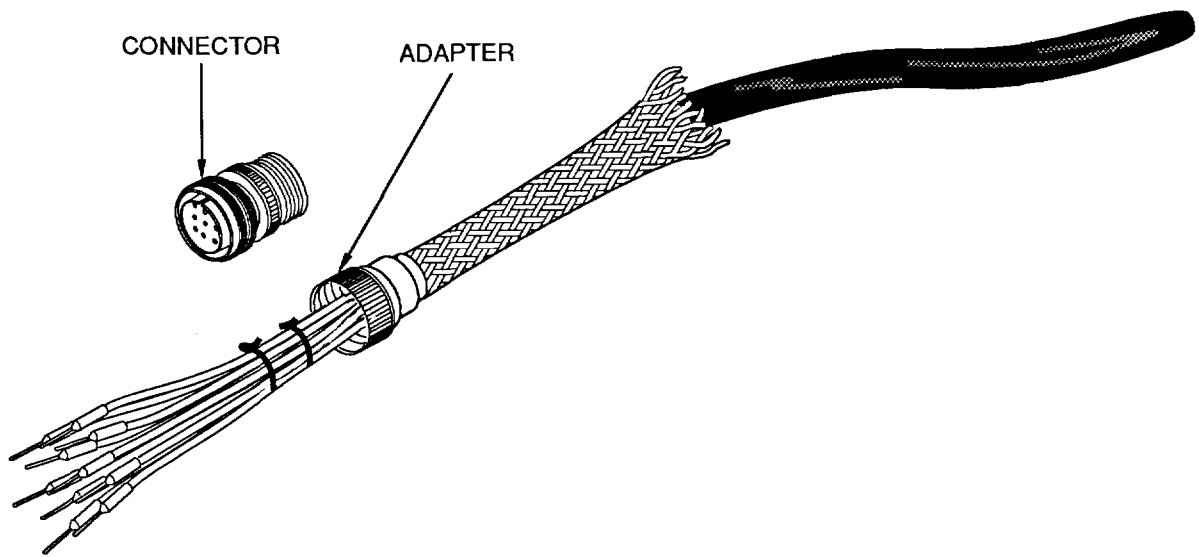

Figure 17. Adapter Removal and Installation
- c. Slide new adapter over cable (Figure 17).